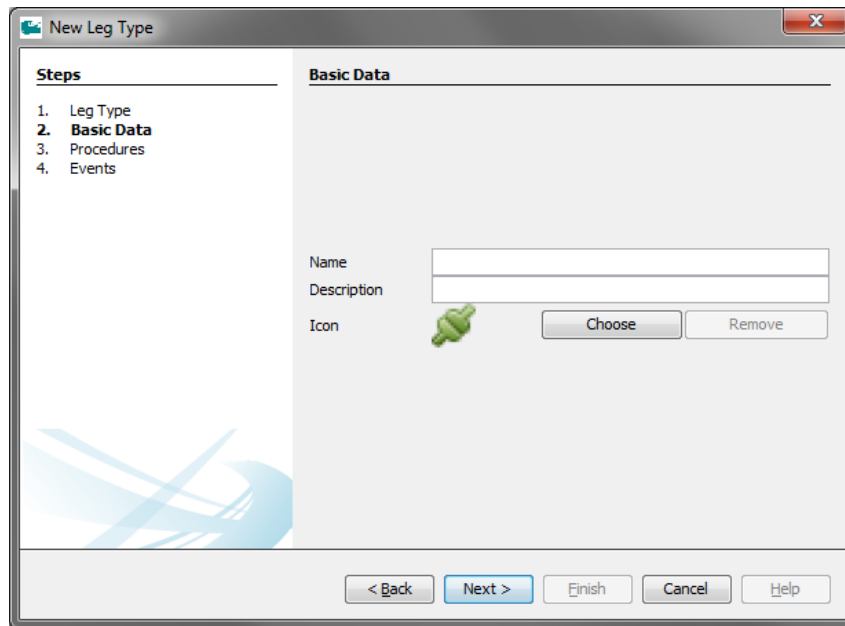

Figure 10: Initial configuration: Creating a Leg Type
- Provide a name and description for the Leg Type. See Figure 10